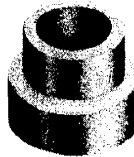

Fig. 7 — Binding Post Cap D
- The D binding post caps, Fig. 7, are for use on 7A fuses installed in L-type fuse chambers.